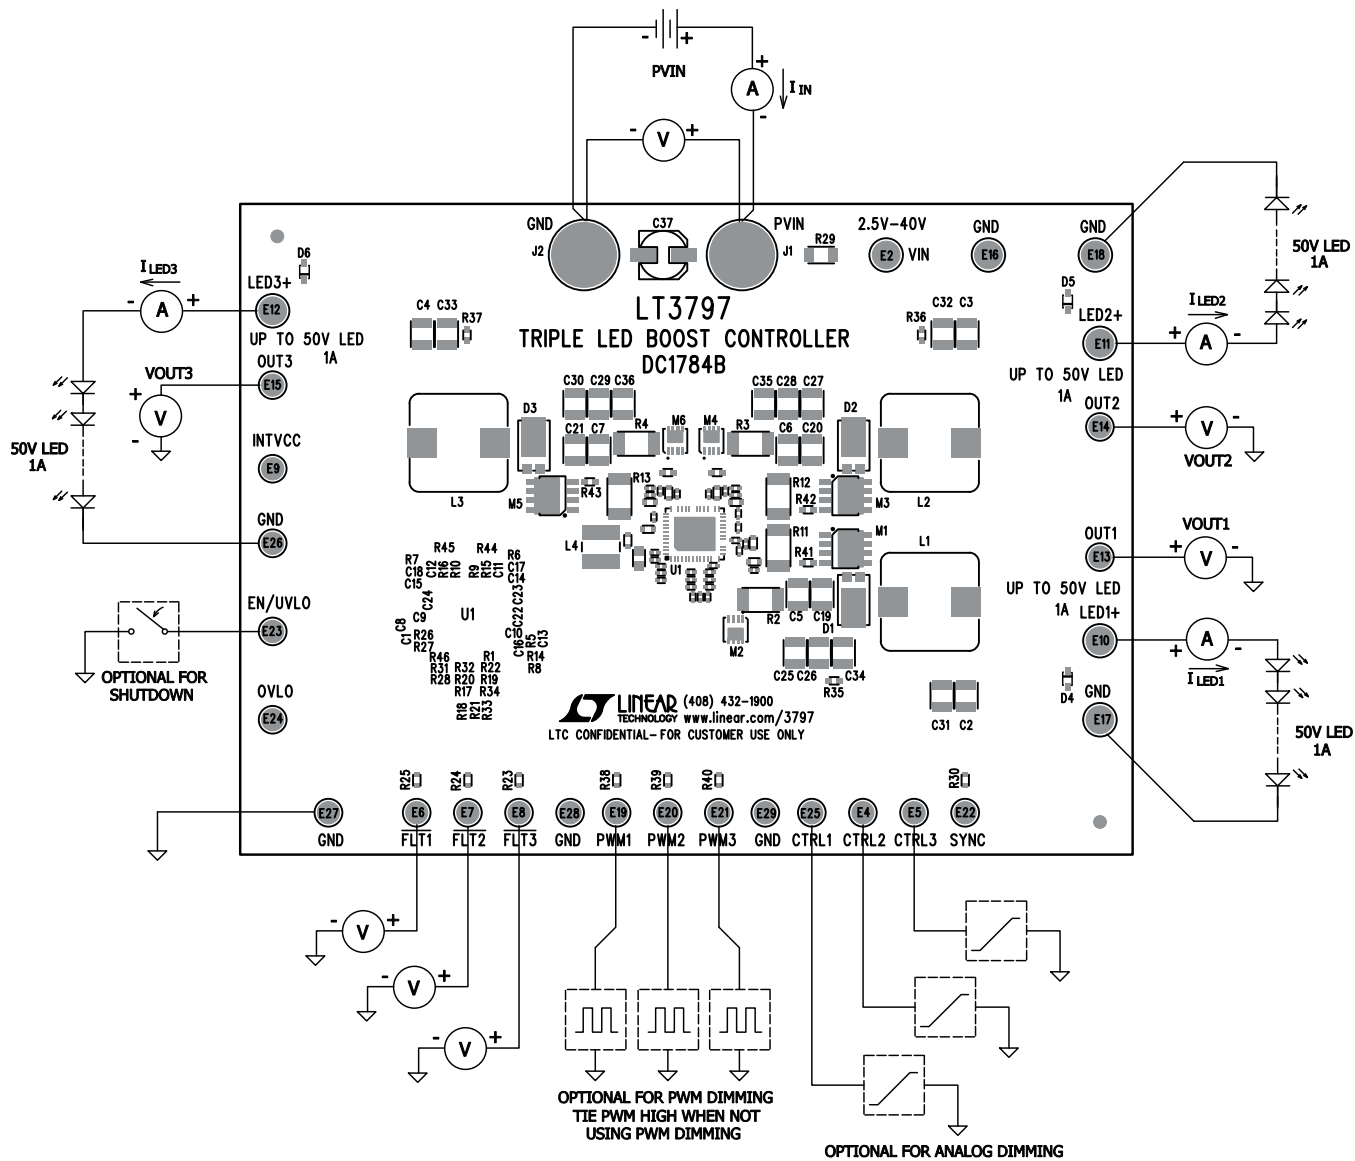

Figure 1. Test Procedure Setup Drawing for DC1784B
1. Connect three strings of LEDs that will run with forward voltage less than 50V (at 1A), but greater than PVIN, to the LED⁺ and GND terminals on the PCB as shown in Figure 1.